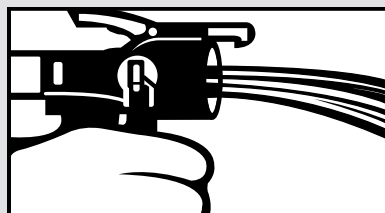

Figure 3
4. Purge the system into a waste container by activating the trigger of the Insta-Flo™ dispenser (See Figure 3).